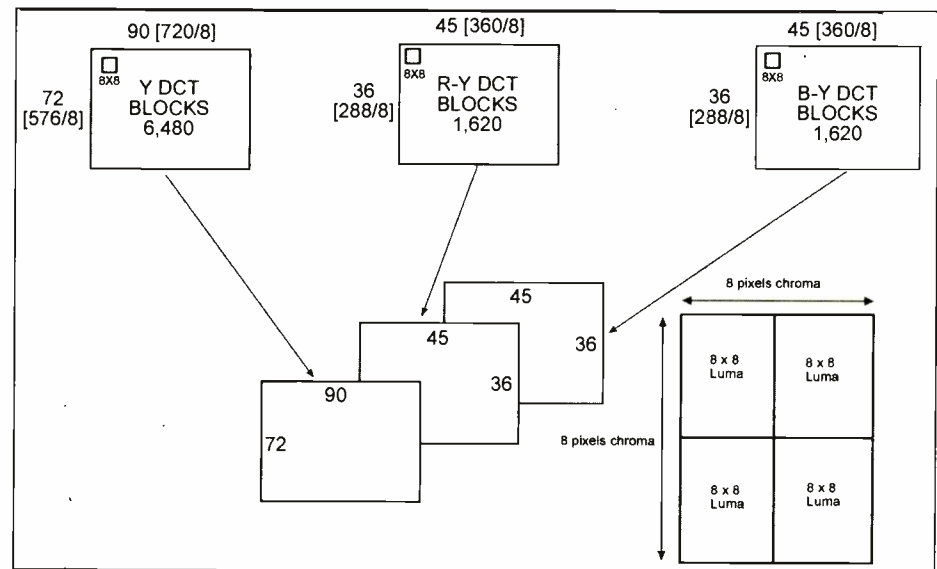

Fig. 3: The macro block arrangement.
'X_{sample}' waveforms shown in Fig. 3.
The pixels to be digitised are assembled in blocks of 64 in an 8 x 8 matrix, i.e. eight pixels horizontally by eight vertically. So for the active part of the picture there are 90 blocks (H) by 72 (V) for the luminance signal and 45 (H) by 36 (V) for the R – Y and B – Y colour components. These are called DCT blocks, see Fig. 3.